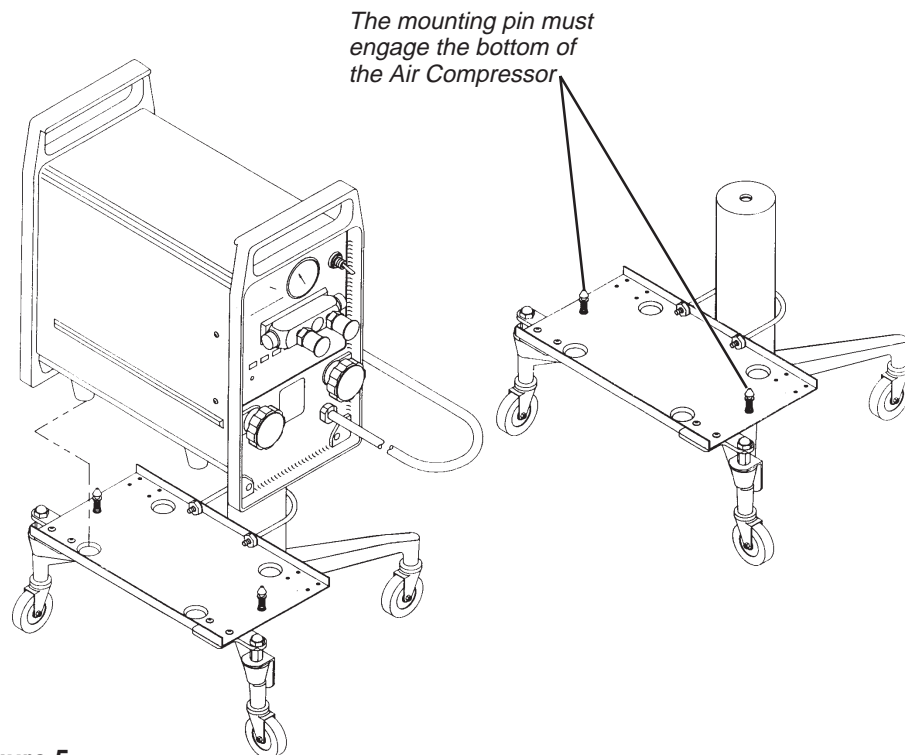

Figure 5
1. If using the accessory Ohmeda High Performance Air Compressor, attach the bracket as shown (Figure 5) with the “U” bolt, lock washers and 1/4-20 nuts provided.